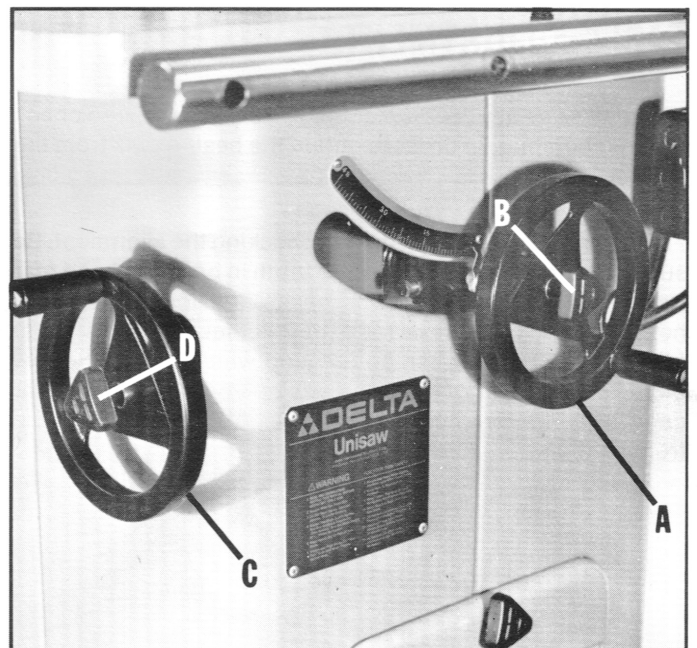

Fig. 22
The saw blade is raised and lowered with the front handwheel (A) Fig. 22. With the exception of hollow ground blades, the blade should be raised 1/8" to 1/4" above the top surface of the material being cut. With hollow ground blades, the blade should be raised the maximum to provide greater clearance.
The saw blade is locked at any height by turning the hand knob (B) Fig. 22. Due to the wedge action of this locking device, only a small amount of force is required to lock securely. Any added force merely puts unnecessary strain on the locking device.
The saw blade is tilted by turning the handwheel (C) Fig. 22, at the left of the cabinet. Each turn on the handwheel equals approximately one and one-half degrees tilt. The tilting handwheel can be locked at any angle by turning the hand knob (D) Fig. 22. Only a small amount of force is necessary to lock the handwheel securely.